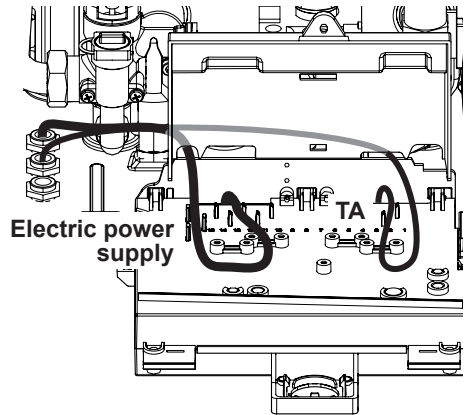

Fig. 6.16
- Connect the electric power supply cable coming from the fused spur isolation switch to the power supply terminal block of the boiler Fig. 6.16 keeping the same connections for the live (brown wire) and the neutral (blue wire). External 3A fuse or fused plug with same current rating is recommended.